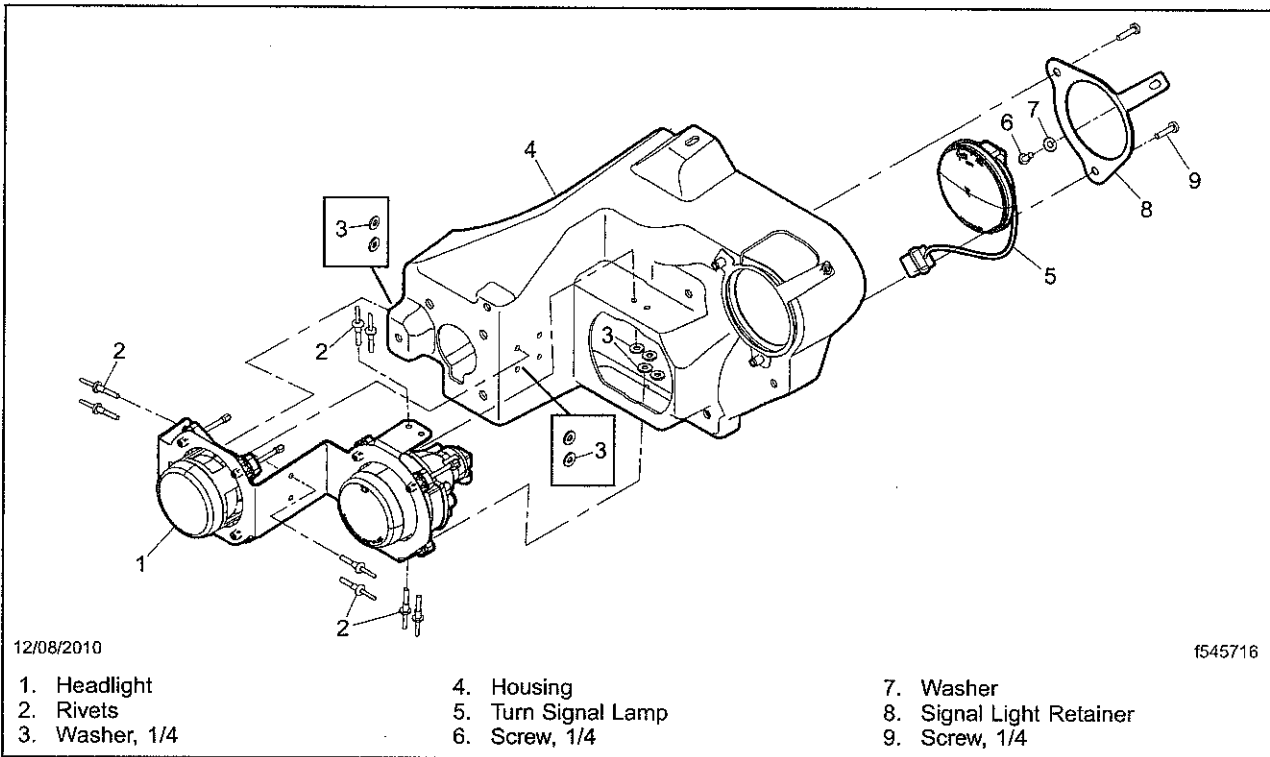
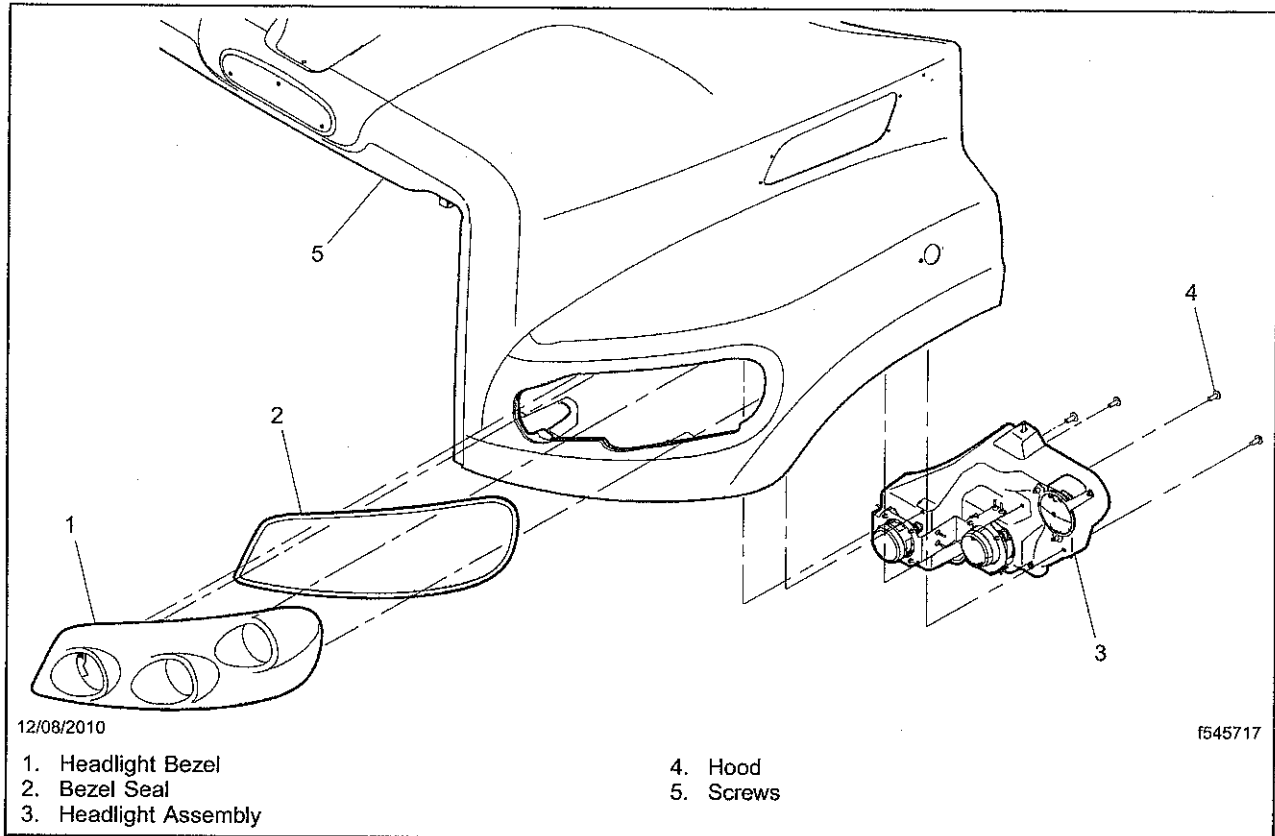

Fig. 10, New Headlight Assembly
Fig. 11, Headlight Installation
14. Install the new headlight assemblies. See **Fig. 10** and **Fig. 11**.